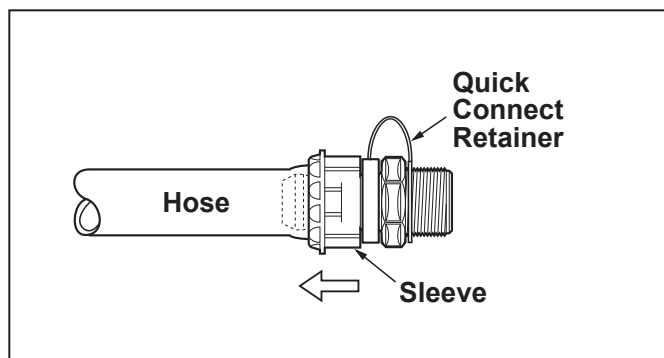

Figure 6. Install the Retainer Clip
- Holding the hose in place, pull and twist the sleeve on the quick connect over the hose as far as possible. Snap the clip into place. See Figure 6.
NOTE The retainer clip must be installed. If the sleeve cannot be positioned on the quick connect to allow the retainer clip to slide in place, see Figure 6. Wet the inside of the hose in clean water and try again.
- Verify that the installation is correct. Refer to Figure 6.